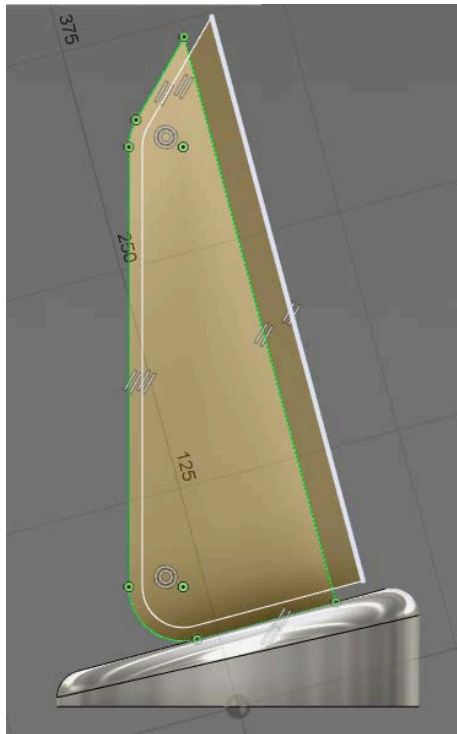

Fig. L09
- c. Pull right side of offset sketch so that it goes over the box (Fig.L09).